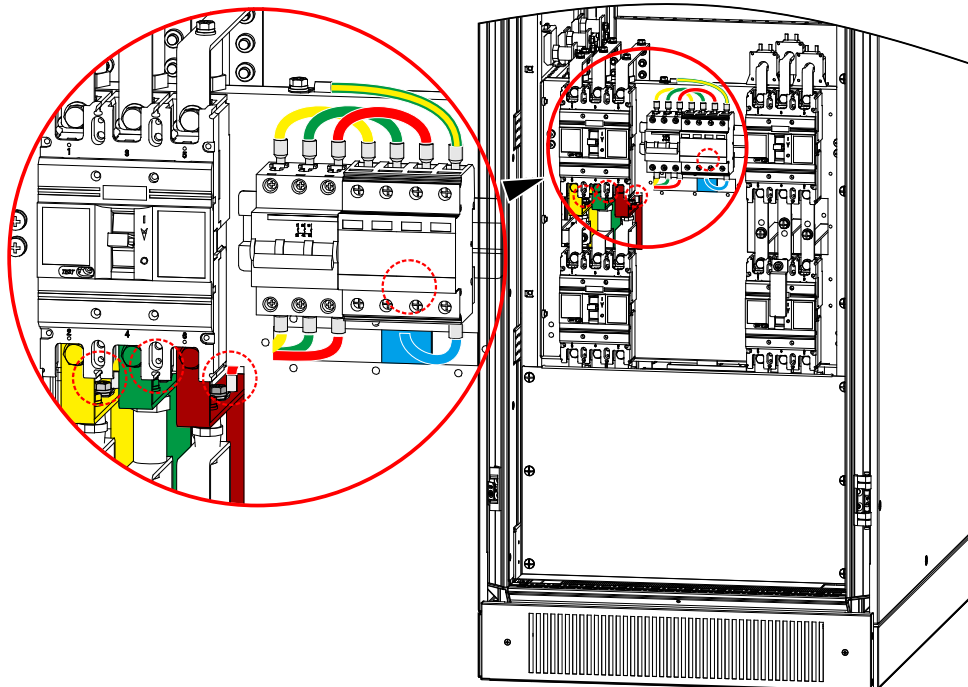

Figure3-21 The wiring for the surge protection device
Step 5 Connect the wires of the SPD and surge protection switch to the corresponding copper bars and plates respectively, as shown in Figure3-21.